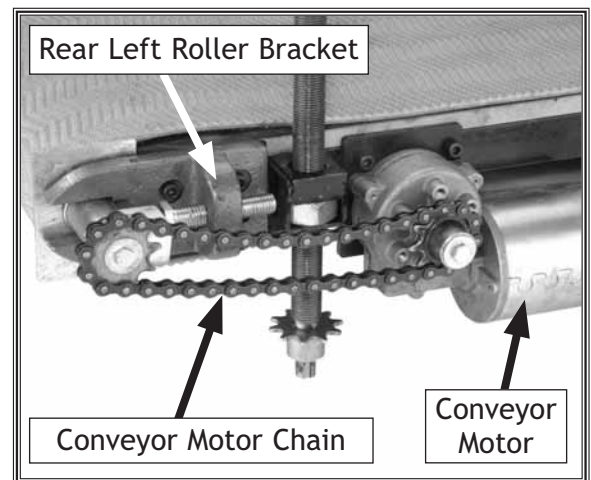

Figure 52. Rear left roller bracket loosened.
19. Loosen the rear left (**Figure 52**) roller bracket (two cap screws) enough so the conveyor motor chain has slack.
21. Remove the conveyor motor (two cap screws) and the rear roller bracket (two cap screws) shown in **Figure 52**.